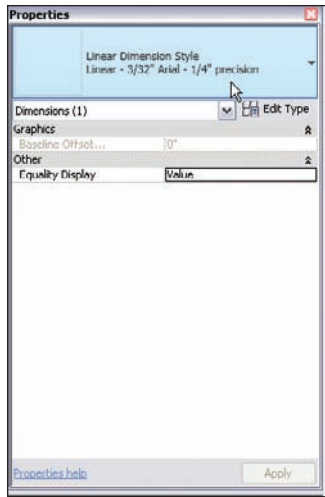

FIGURE 5.18 Changing the dimension to reflect the new rounded dimension
9. In the Modify dimensions Properties dialog, select the Linear - 3/32" Arial - 1/4" style, as shown in Figure 5.18.